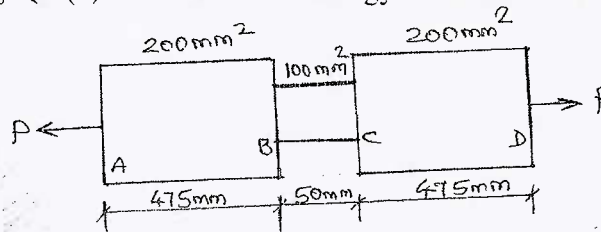

Fig. Q4 (b)
- b. The maximum stress produced by a pull in a bar of length 1 m is 150 N/mm^2 . The bar details are given in Fig. Q4 (b). Calculate strain energy stored in the bar if $E = 200 \text{ GPa}$. (10 Marks)